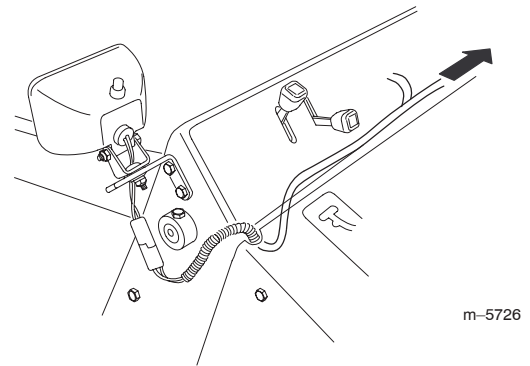

Figure 10
3. Route the lighting wire harness under the control panel with the connector at the center of the harness through the opening in the frame leading to the engine compartment (Fig. 10).
4. Install the right and left control panel covers with the ends of the lighting harness through the notches you cut previously (Fig. 10).